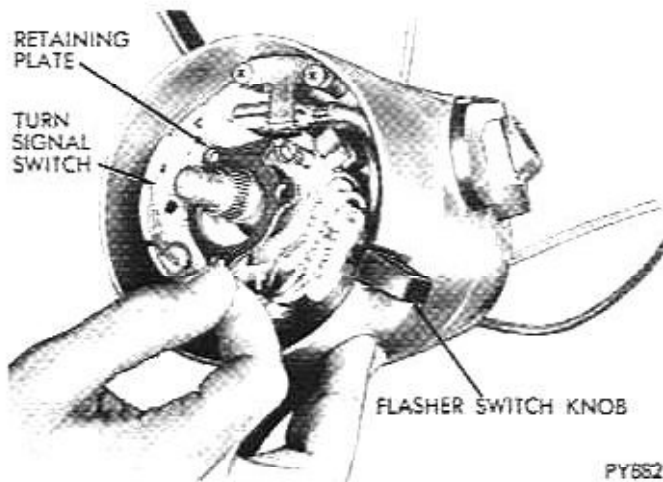

Fig. 5—Retainer and Turn Signal Switch
(4) Drive out gearshift lever pivot pin, then remove lever and spring from housing.
(5) Remove turn signal switch and upper bearing retainer screws. Remove retainer and lift switch upward out of the way (Fig. 5).